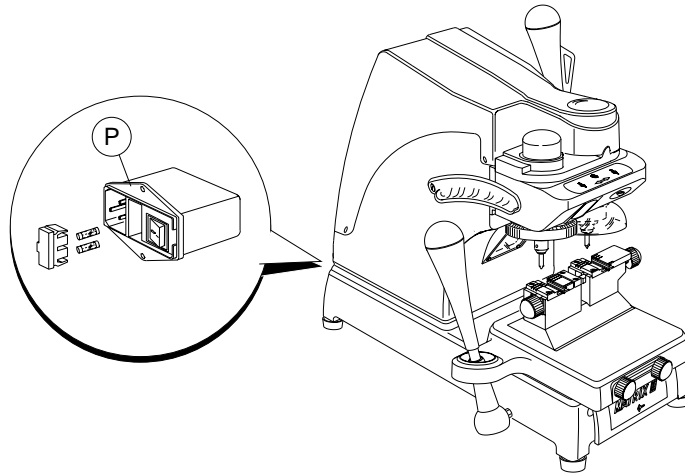

Fig. 27
placed in the inlet socket next to the master switch (P) (fig. 27), to protect the key-cutting machine from sudden changes in voltage or short circuits.
- 1) turn off the master switch (P) and remove the mains plug.
- 2) remove the fuse board with the aid of a screwdriver (fig. 27).